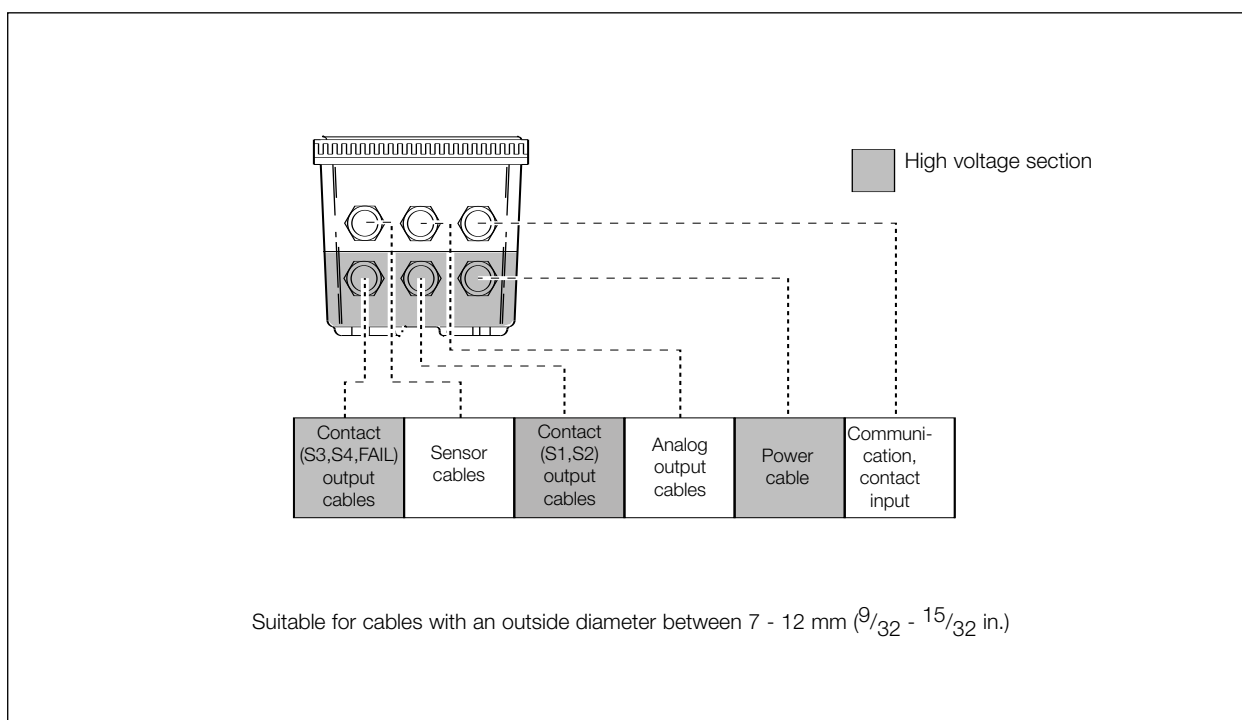

Figure 3-5. Glands to be used for cabling
8. Use the front three glands for analog output, sensor input, contact input and communication cabling (see figure 3-5).